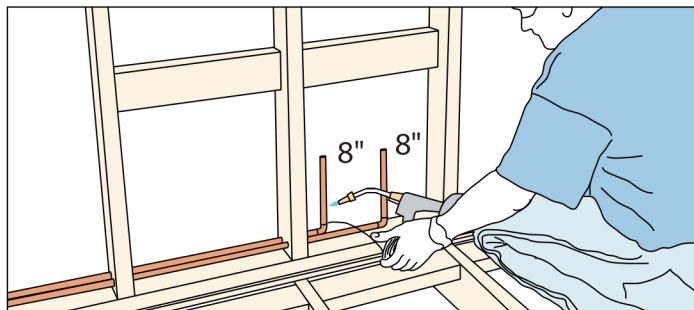

Figure 6
6. If you need to install a new diverter mixing valve on the back wall, pre-plan the lay-out with the valve, glide bar and grab bar positions in mind. Shut off the water supply and cut the hot and cold lines between 2" and 4" above the bottom plate. Route these lines through the studs (except for 2 ea 45 deg elbows in front of the corner studs) toward the new valve location on the back wall. **See Figure 6**